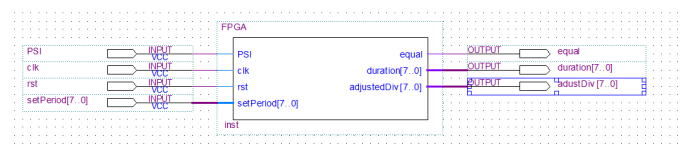

Figure 1
- A clearer picture of Figure1 exists in LAB2/FPGA/Quartus folder.